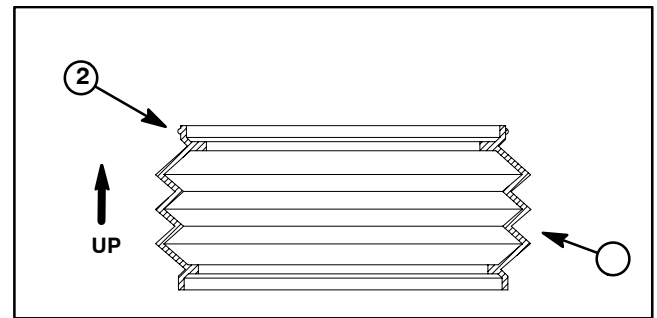
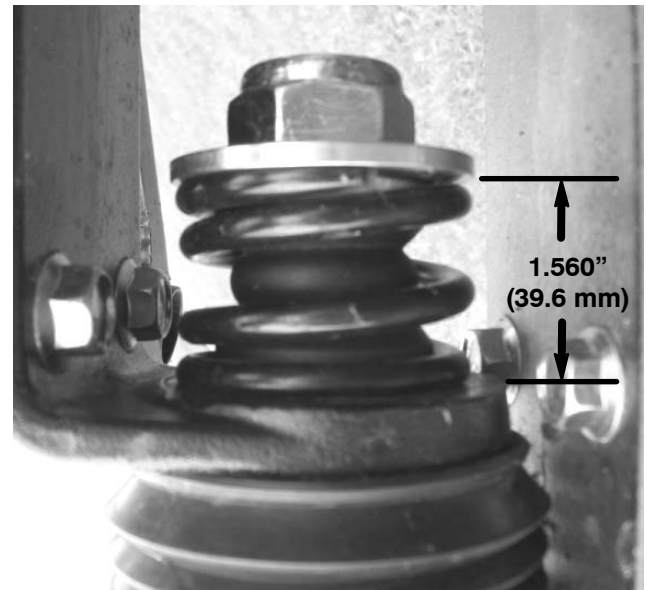

Figure 59
Figure 60
1. If pivot bracket (item 11) was removed from machine, lightly lubricate bushings (item 12) with motor oil before assembly. Connect boom actuator (not shown) to pivot bracket (see Boom Actuator Installation (Machines with Serial Numbers Above 260000000) in this section).
2. Make sure that hinges (item 1) are securely fastened to pivot bracket (item 11) and boom (item 5). The boom hinge uses four (4) backing plates between the boom and flange nuts.
3. Position boom hinge to pivot bracket hinge. Make sure that rubber boots (item 2) are placed at hinge junctions and that rib on boots are toward the top of the boom (Fig. 59).
4. Insert two (2) cap screws (item 9) through flat washers (item 10) and hinges. Place tube (item 17), breakaway spring (item 19), spring retainer (item 18) and lock nut (item 8) on each cap screw. Make sure that shoulder on spring retainer fits into breakaway spring.
5. Tighten lock nuts so there is 1.560" (39.6 mm) between the face of the spring retainer and the hinge casting (Fig. 60).